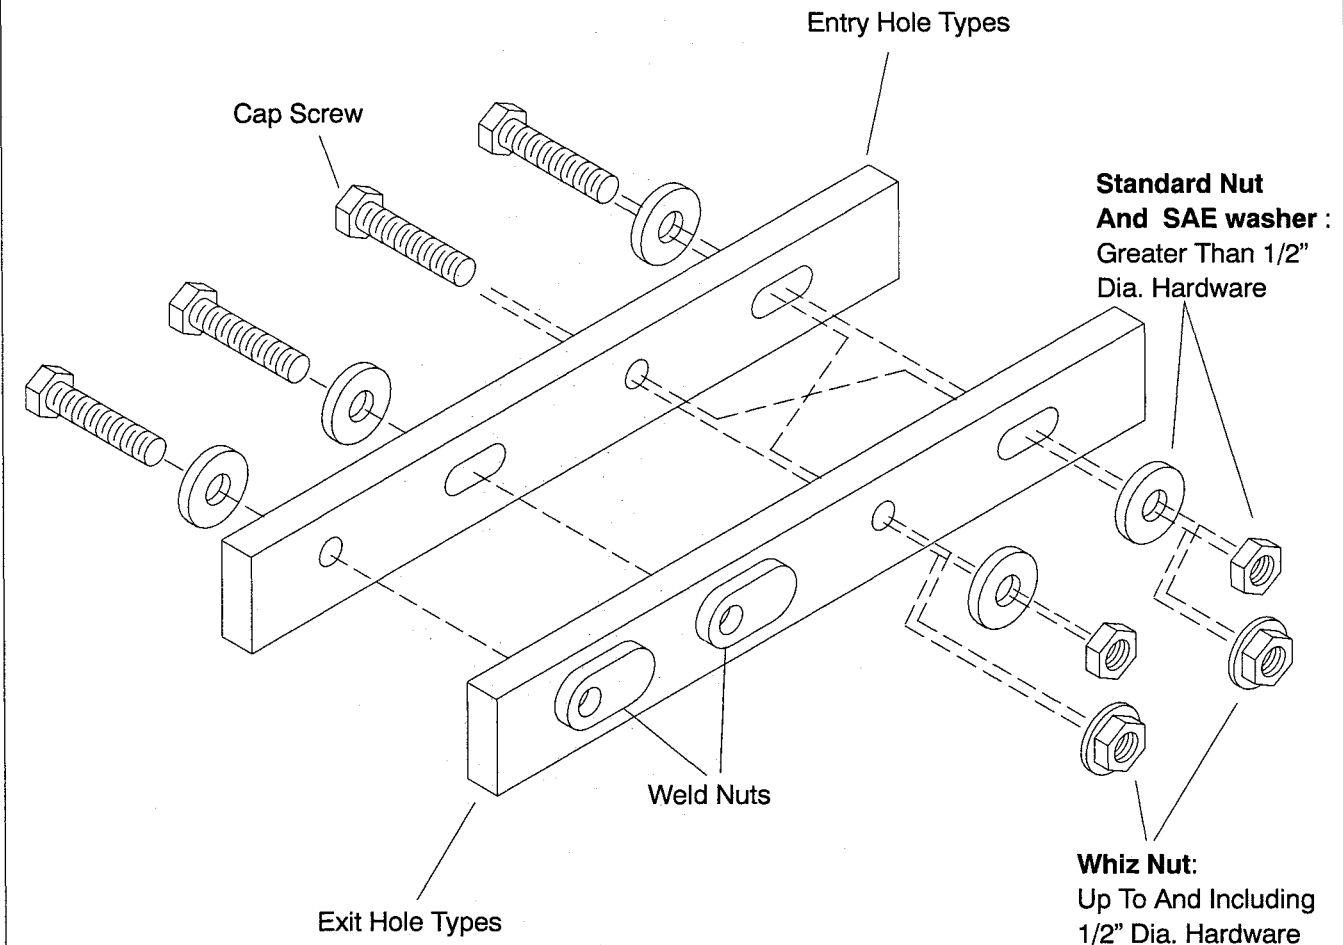

Figure 2. Acceptable Hardware Combinations
- **Common Hardware Entries:** When hardware size (diameter and threads per inch) is given but no indication of type of additional hardware is shown, use the illustration in Figure 2 as a guide.